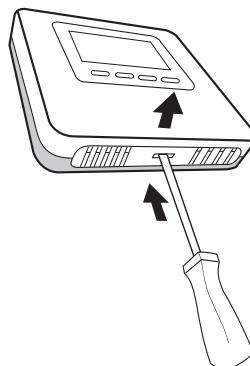

Fig. 11
- Detach the thermostat's base by pressing down the tab at the bottom (Fig. 11).